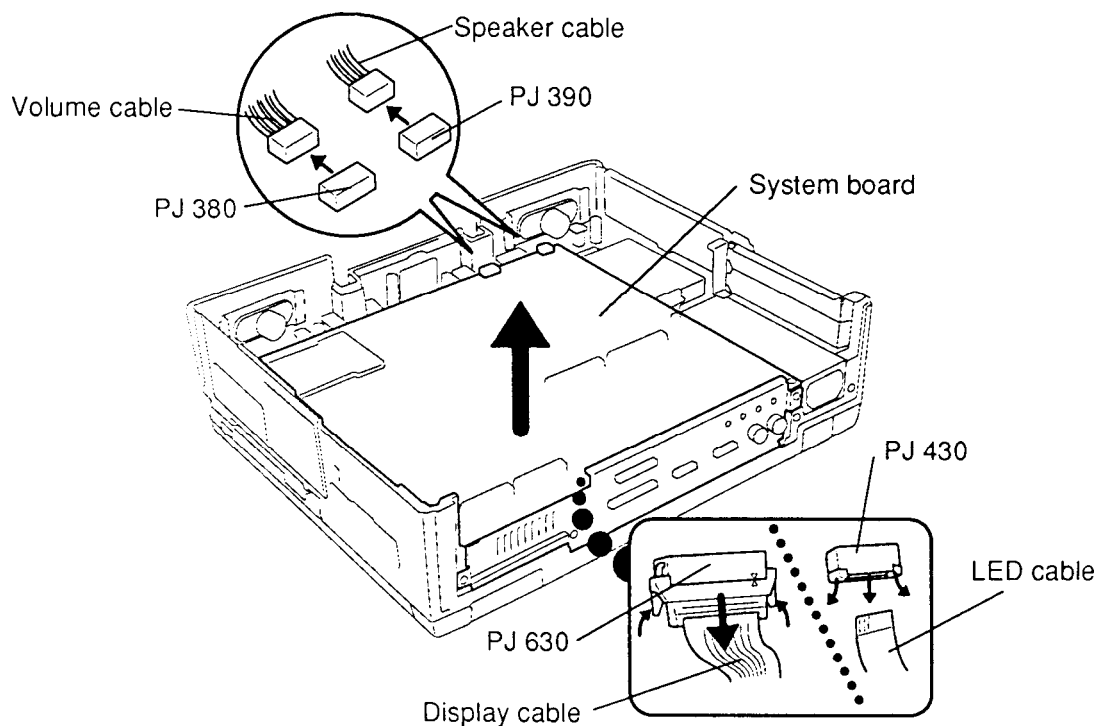

Figure 4-29 Removing the System Board
5. Disconnect the **speaker cable** from **PJ390** and the **volume cable** from **PJ380** (located under the **system board**) (Figure 4-29).
1. Set the **system board** in place and connect the **display cable** to **PJ630** (located under the system board), then set the stopper on the connector (Figure 4-29).
2. Connect the **LED cable** to **PJ430** (located under the system board) (Figure 4-29).
3. Connect the **speaker cable** to **PJ390** and **volume cable** to **PJ380** (Figure 4-29).